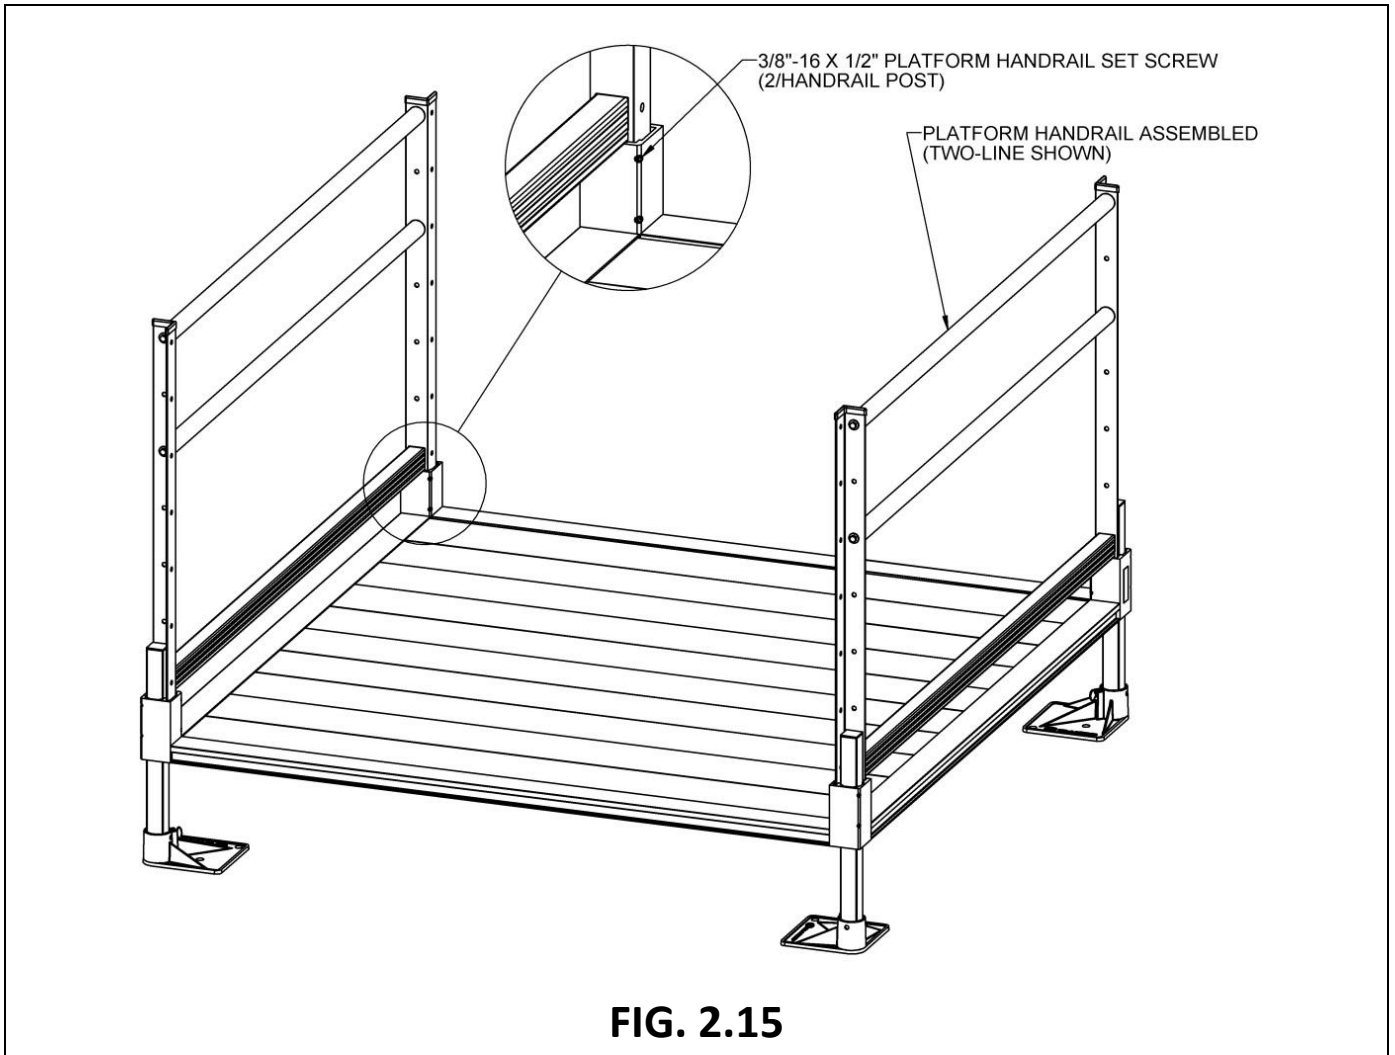

FIG. 2.15
- ✎ The only installation difference between low profile platforms and standard platforms is where the handrail inserts into the platform corner pockets. On the low profile platform, both handrail set screws are above the platform walking surface (FIG. 2.15) instead of having one underneath the deck as they are on a standard platform.